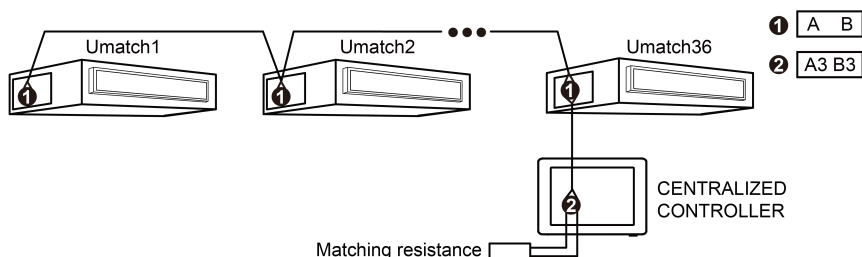
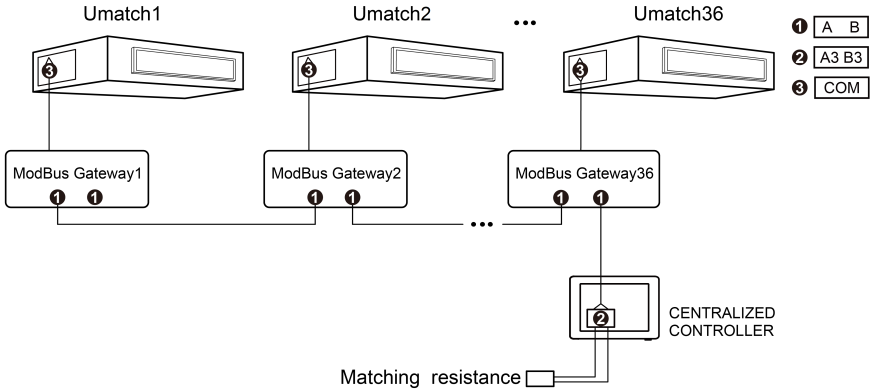
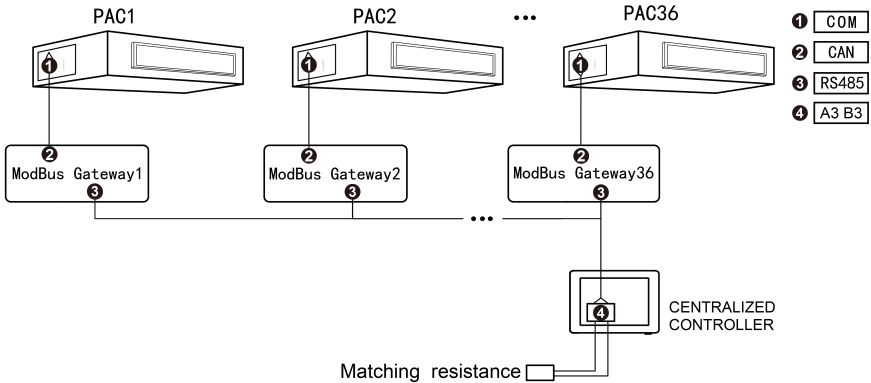

Fig. 3.7 Centralized Controller Connected with U-match(Built in BMS interface) Unit
Fig.3.8 Centralized Controller Connected with U-match(BMS gateway required)Unit
Fig.3.9 Centralized Controller Connected with PAC Unit
- (1) A centralized controller can control 36 units at the most.
- (2) When the centralized controller connecting the network of U-match unit with COM_BMS interface, connect the network by referring to figure 3.7; otherwise, connect the network by referring to figure 3.8. A1 and B1 interfaces of the centralized controller should connect with A and B interfaces of U-match unit/gateway respectively. When the centralized controller connecting the PAC unit, connect the network by referring to figure 3.9. The PAC unit connects the CAN interface of gateway through COM interface. RS485 interface of gateway connects A1 and B1 interfaces of centralized controllers.
- (3) The centralized controller should be connected in series and connect with the indoor unit of the last packaged unit, and it should connect with the matched resistance at A1 and B1 interfaces together with the communication cable.
- (4) The gateways shown in figure 3.8 and 3.9 should be purchased additionally. A gateway is needs for each indoor unit.
- (5) The address range of indoor unit of packaged unit is 1-36, and the address should be different; otherwise, communication error may occur. Address setting method is as below:
① Address setting method for U-match unit of RS485 communication